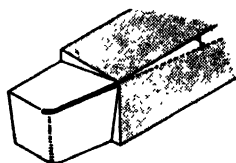

Fig. 11-15. Side cutting-edge angle. (The Shell Oil Company)
**Side Cutting-edge Angle.** This term indicates that the plane which forms the flank or side of a tool has been ground back at an angle to the side of the shank (Fig. 11-15), thereby establishing the angle of the side cutting edge in relation to the shank.